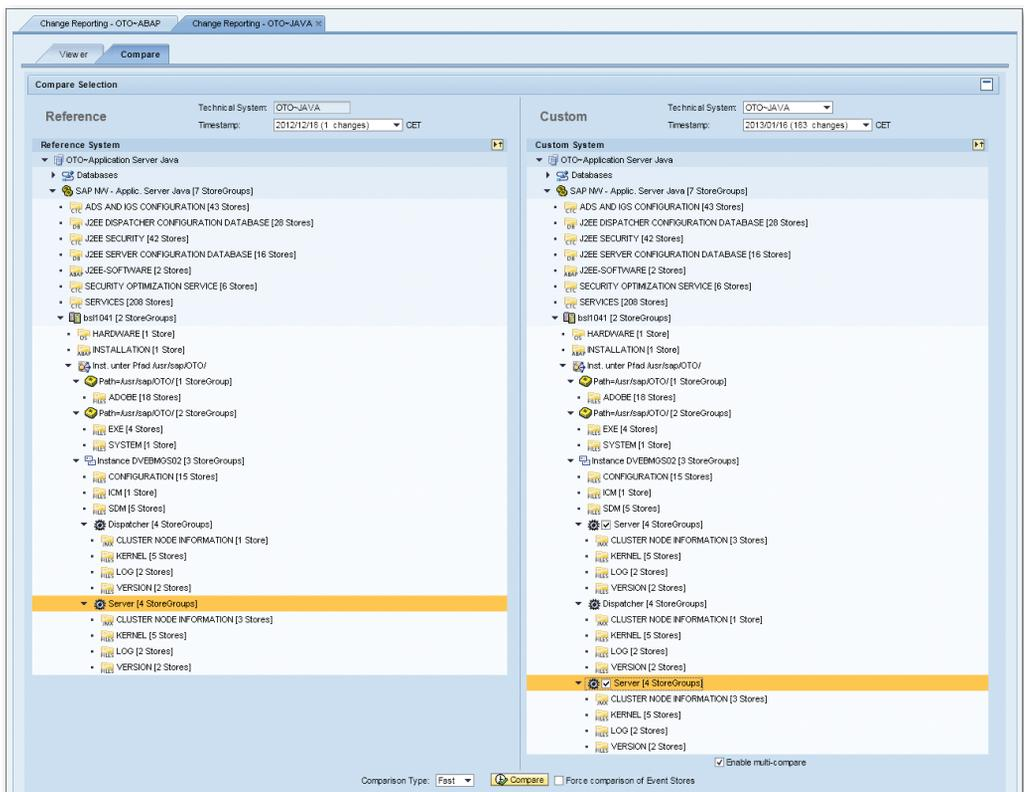

Figure 4.21 Comparing Multiple Instances
1. On the left-hand side, select the reference object as usual, namely the reference instance for AS ABAP and the relevant server node for AS Java. To compare several instances against the reference instance simultaneously, select the **ENABLE MULTI-COMPARE** checkbox in the **CUSTOM** area (bottom right in Figure 4.21). A checkbox then appears next to the instance node or server node on the right-hand side (in the **CUSTOM** area). You then select the instances you wish to compare against the reference instance.